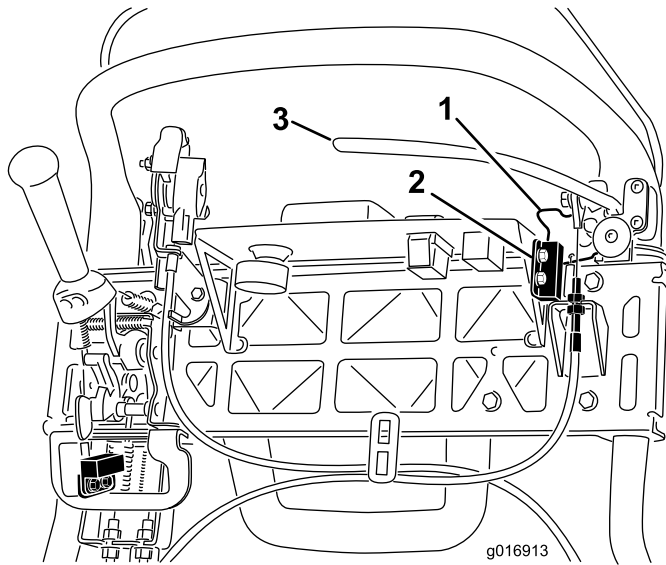

Figure 40
4. Loosen the interlock switch mounting fasteners (Figure 40).
5. Place a 1.6 mm (.062 inch) thick shim between the parking brake latch and the interlock switch (Figure 40).